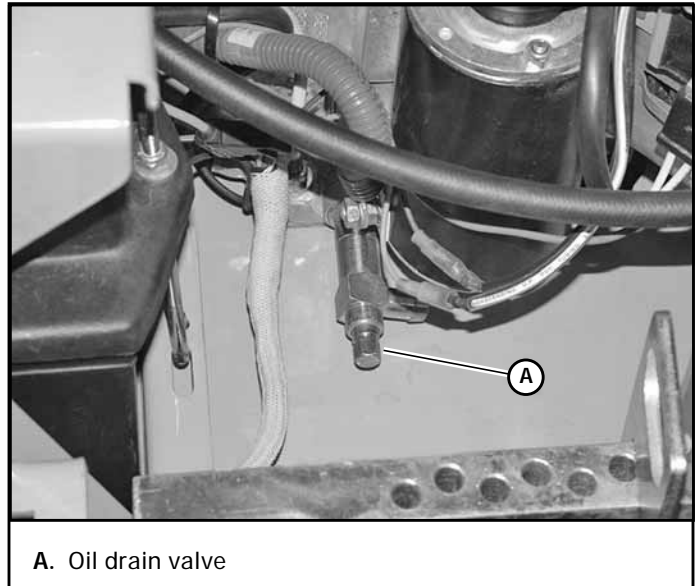

Figure 5-1
1. Locate the oil drain valve on the lower right side of the engine. Figure 5-1